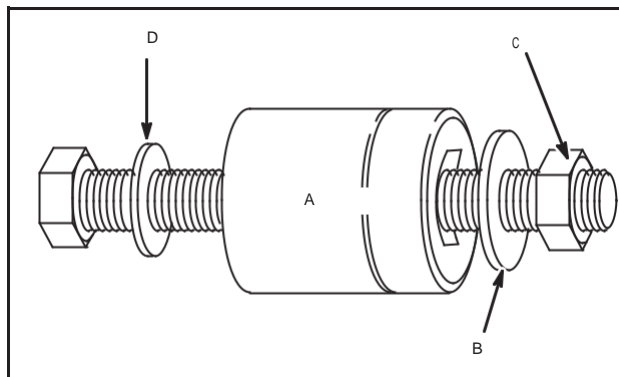

Fig. 10 - Bushing Removal Tools
5. The following tools are required to remove the governor shaft bushing, Fig. 10.